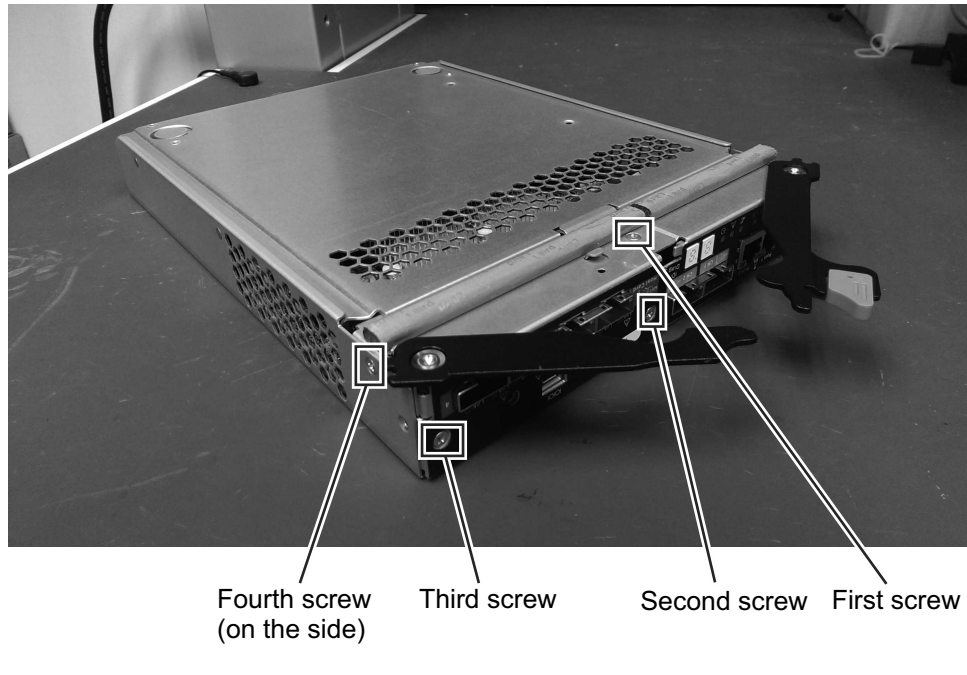

Figure 43. Four screws on the cover plate
5. Remove the cover plate from the controller. To do so, remove the four screws from the cover plate. Three screws are located on the front panel and the fourth screw is located on the side as indicated in Figure 43. After you remove the fourth screw, gently pull the cover panel till it is released.